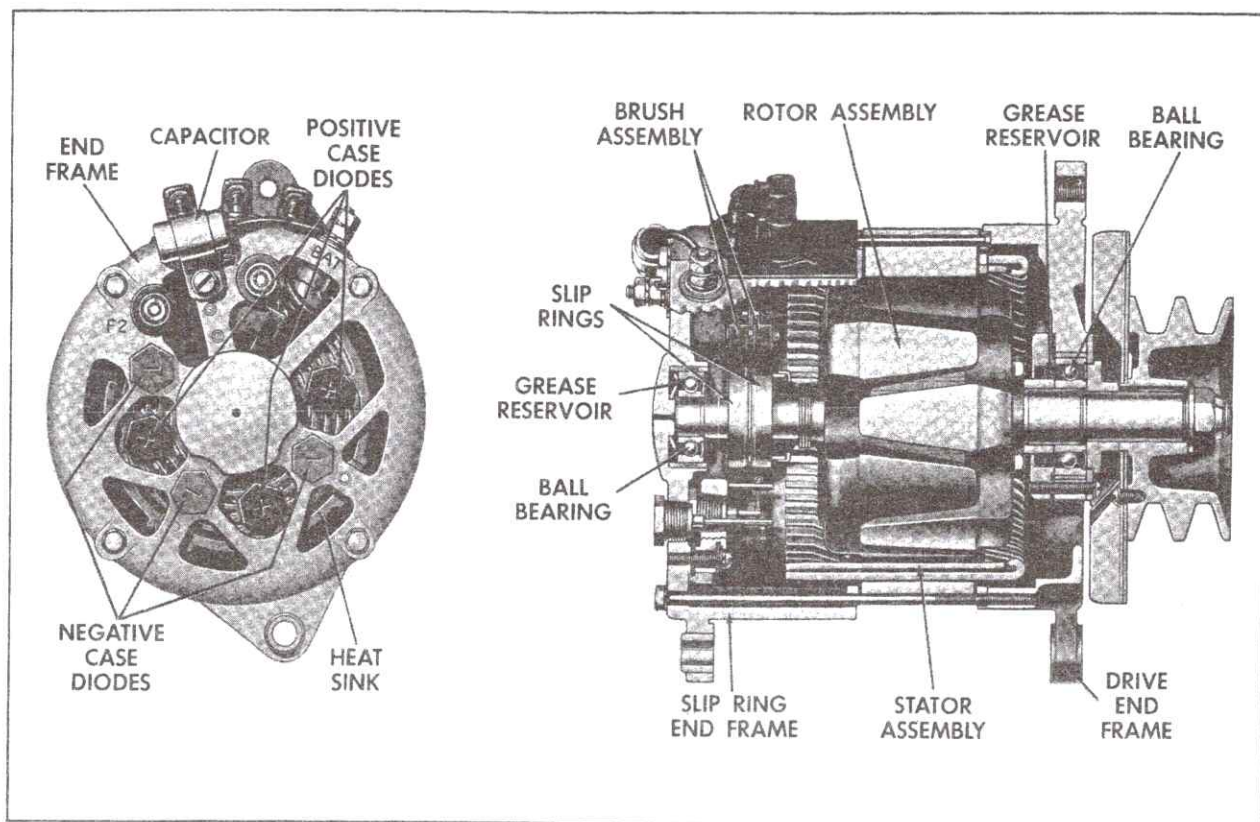

Fig. 6-60 Generator Cut-Away View
**b. Disassembly (Fig. 6-60)**
1. Remove four through bolts securing drive end frame to slip ring end frame, Fig. 6-60.